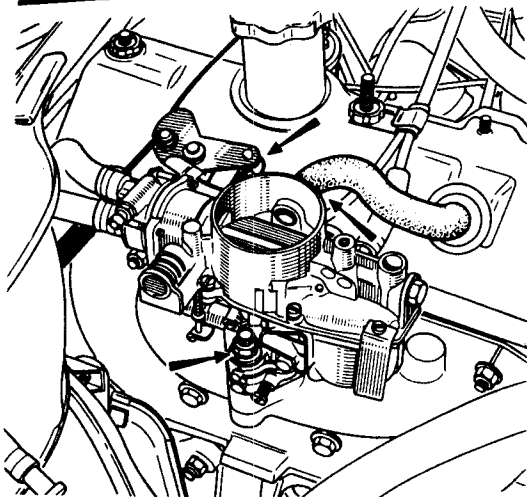

Fig.1.3. The accelerator cable and swivel linkage
- 11 Remove the air cleaner and disconnect the controls from the carburettor (photo). With 1150/697 and 1152/821 engined models, up to 1968, disconnect the accelerator return spring, the accelerator linkage and swivel lever and detach the cable from the cylinder head clip, Fig.1.3. On models produced after 1968, remove the accelerator return spring, cable and cable locknut connection on the rocker box cover.